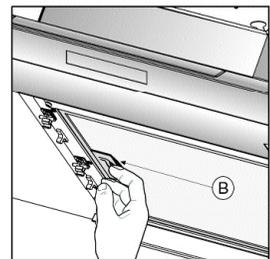

Fig.6
- We recommend disconnecting the anti grease filter (B - fig 6) for easier installation. To remove filters follow the steps below: